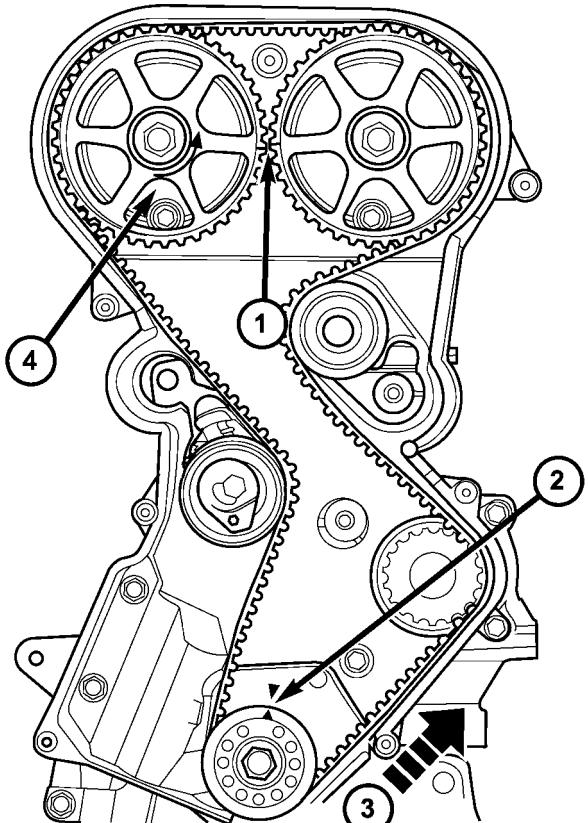

Fig. 126 Timing Belt Installation
(3) Install timing belt. Starting at the crankshaft, go around the water pump sprocket, idler pulley, camshaft sprockets and then around the tensioner (Fig. 126).
(4) Move the exhaust camshaft sprocket counter-clockwise (Fig. 126) to align marks and take up belt slack.